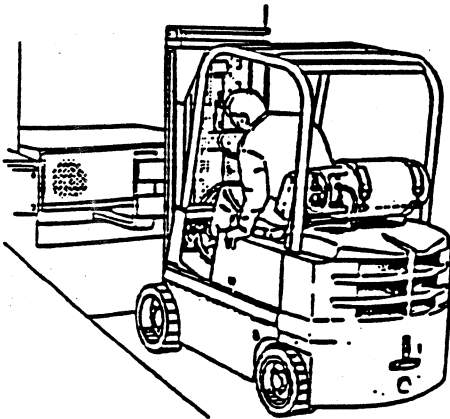

Figure 4
6. Position the dock leveler in the pit (See Figure 4) making sure the electrical wire coming out of junction box at the rear of pit does not become crimped between the unit frame and pit. (See Figure 5)
7. Once the leveler has been set in pit make sure all four (4) corners are flush with dock surface.
8. Once a flush fit has been obtained all around the board, tack weld the two (2) rear welding angles together. (See Figure 4)